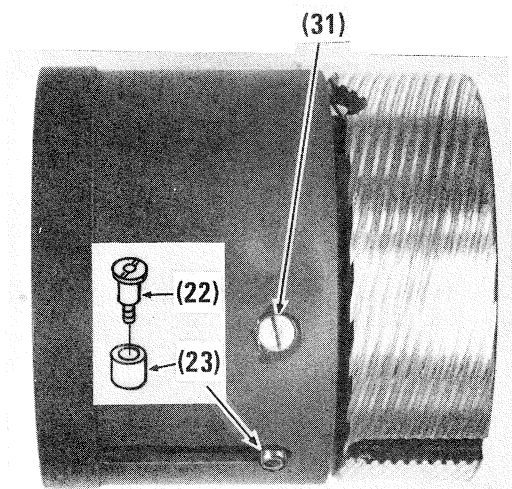
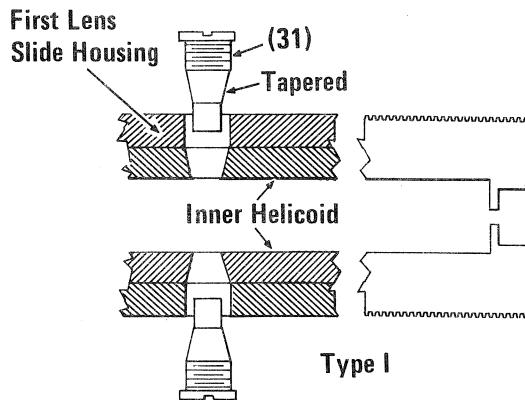

FIG. 4-13
FIG. 4-21
- a) Remove 1st lens group slide screw (31) two places. Use tool No. 3650533 to remove 2nd lens group slide shaft (39) and roller (38) (two places). Fig. 4-13.
There are two types of inner helicoids used in the lens. In Type I the edges of the first lens group cam slot, and the sides of the slide screws (31) are beveled. Fig. 4-21.
- g) Install 1st lens slide screw (31) in its mounting hole, through first lens cam slot in inner helicoid and into long slot in 2nd lens slide housing. Repeat for other side of lens. Fig. 4-13.
h) Adjust the depth of slide screw (31) in the assembly as follows:
1. Type I Helicoid. Fig. 4-21.